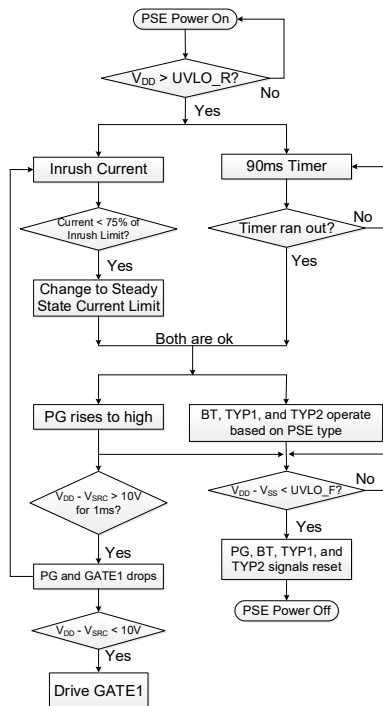

Figure 3: PG Logic
- A wall power adapter is detected on AUX, and V_{ADP} exceeds the UVLO threshold (see Figure 3).